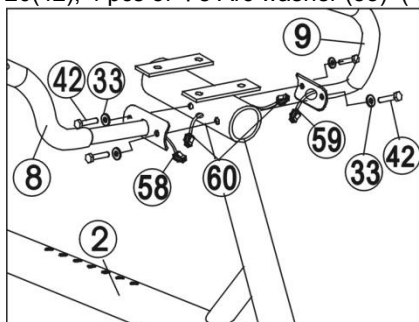

Figure 7
a. Connect the hand pulse wire 1 & 2 (58/59) with hand pulse wire 3(60), fix the Left and right handle bar (8/9) with 4 pcs of Half round Crosshead bolt M8×20(42), 4 pcs of Φ8 Arc washer (33) (See figure 7).